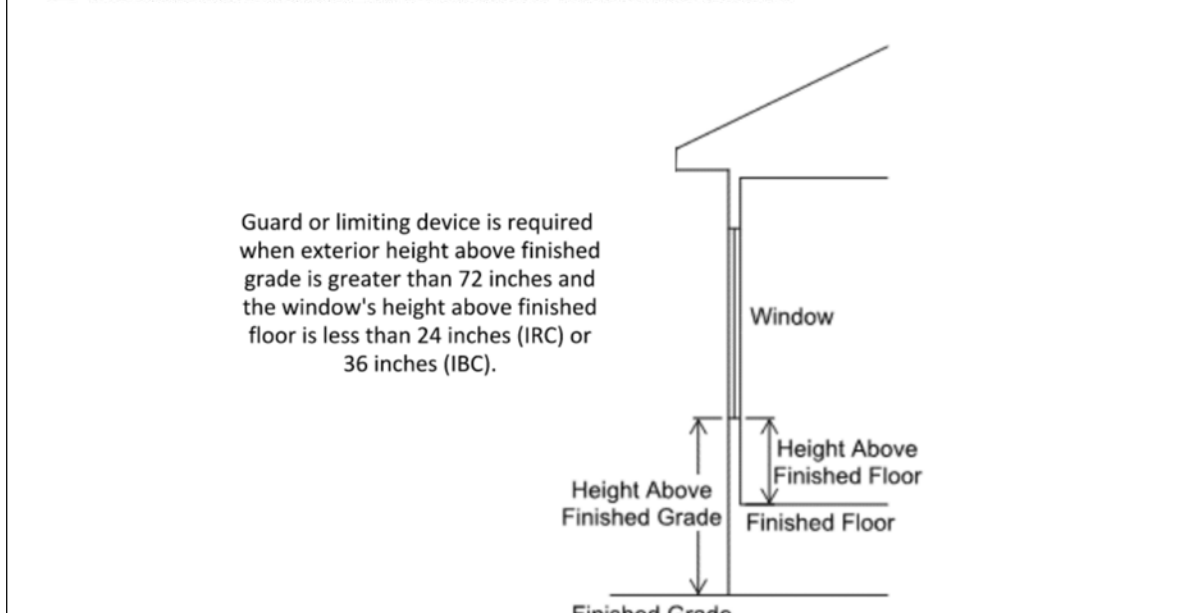

Figure 1: Sill height above finished grade on the exterior side of an operable window opening.
- Where the sill height above finished grade on the exterior side of an operable window opening is greater than 72 inches, and the sill height above the finished floor on the interior side of the operable window opening is less than 24 inches (or 36 inches in dwelling units regulated by the IBC) (see Figure 1), then window fall protection shall be provided by one of the following (R312.2.1, R312.2.2; IBC 1015.8):